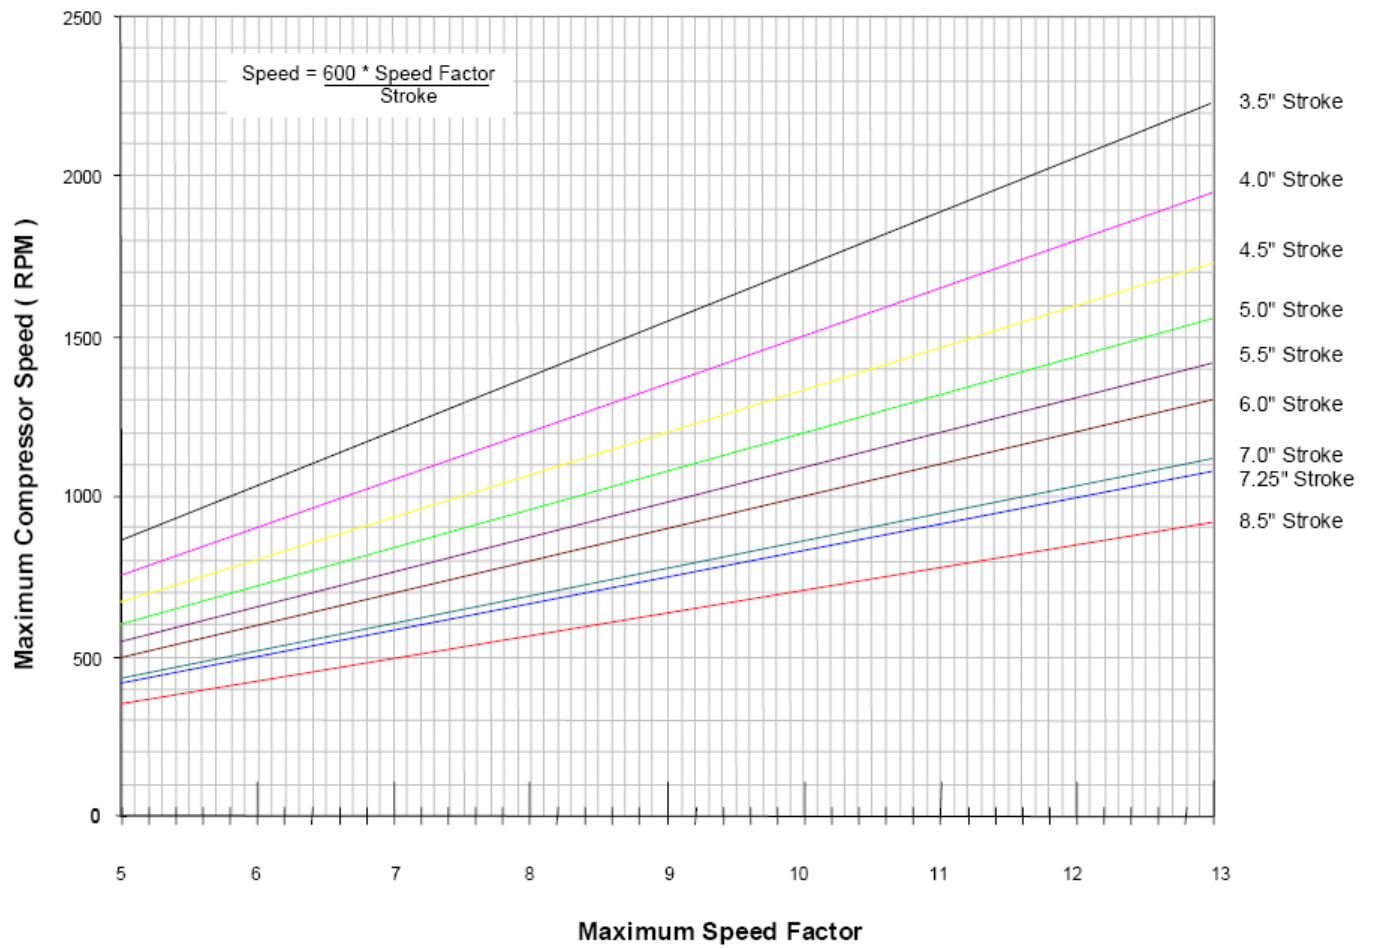

Figure 2
4. Find the Maximum Allowable Speed for a frame from Figure 2 using the "Maximum Speed Factor".